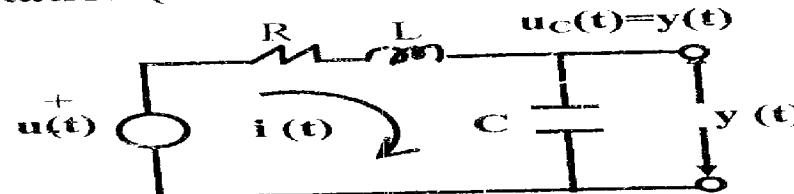

Fig.3a RLC Circuit
3. a. For the R L C circuit in fig. 3a